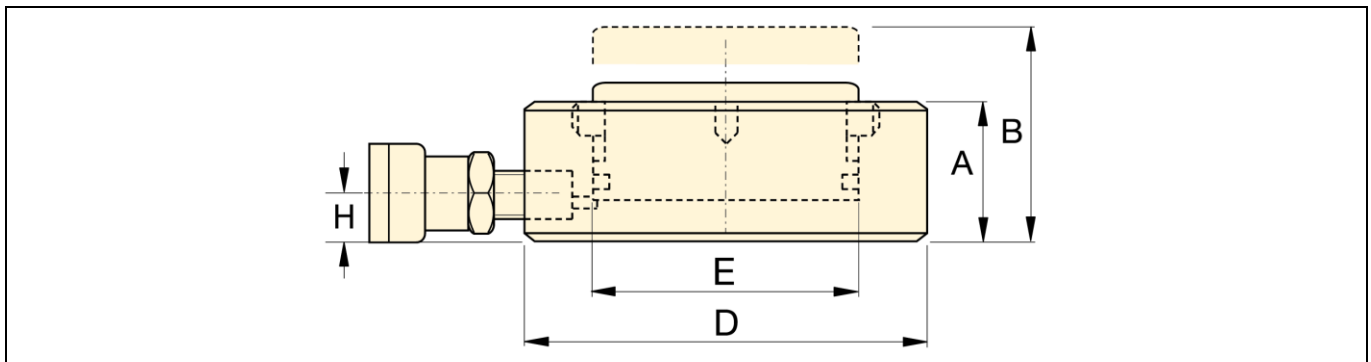

Figure 3, Dimensions – CULP-Series
9.1 Dimensions – Imperial (see Figure 3)
9.2 Dimensions – Metric (see Figure 3)